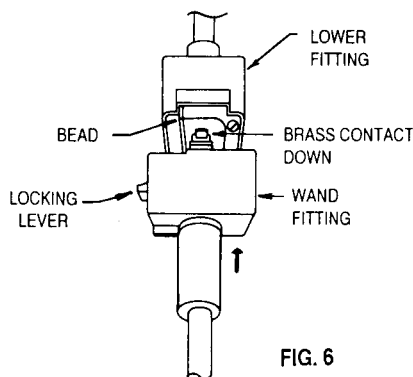

FIG. 6
1. Insert the WAND FITTING into the LOWER FITTING. The LOCKING LEVER must be on the same side as the bead located at the bottom of the LOWER FITTING (See Fig. 6.) Rotate the WAND FITTING 90° clockwise until LOCKING LEVER snaps and locks in place. (See Fig. 6, 7, & 8).